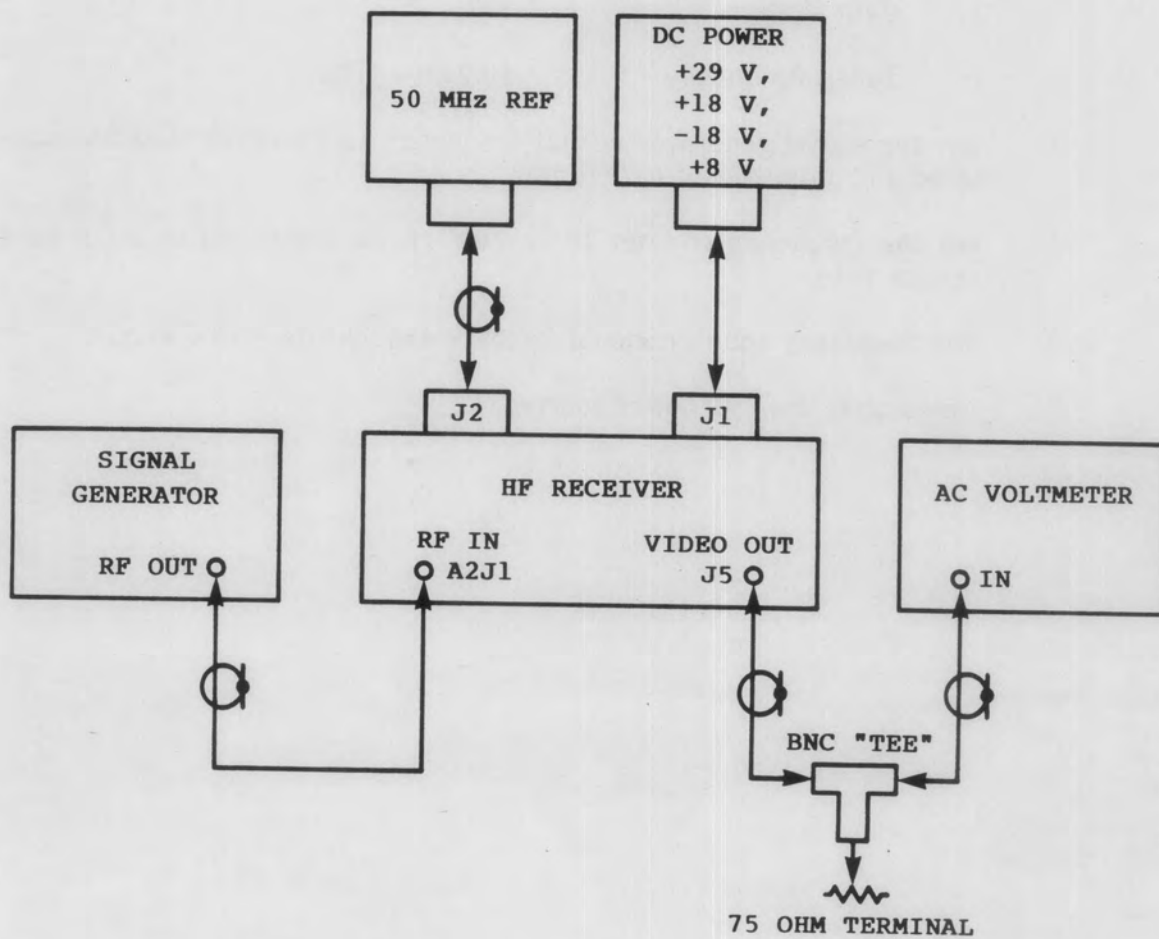

Figure 4-4. Gain Control Test Equipment Setup
1. Connect the receiver as shown in **Figure 4-4**.